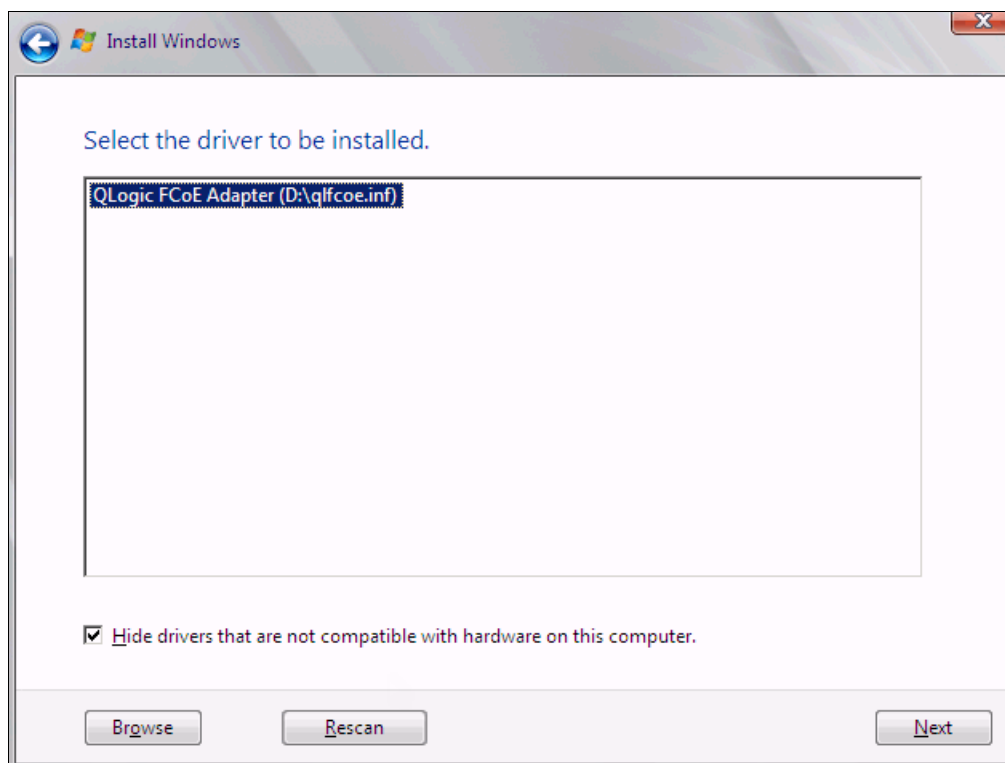

Figure 9-169 QLogic driver loaded
14. In the “Select the driver to be installed” panel (Figure 9-169), select the driver, and click **Next**.